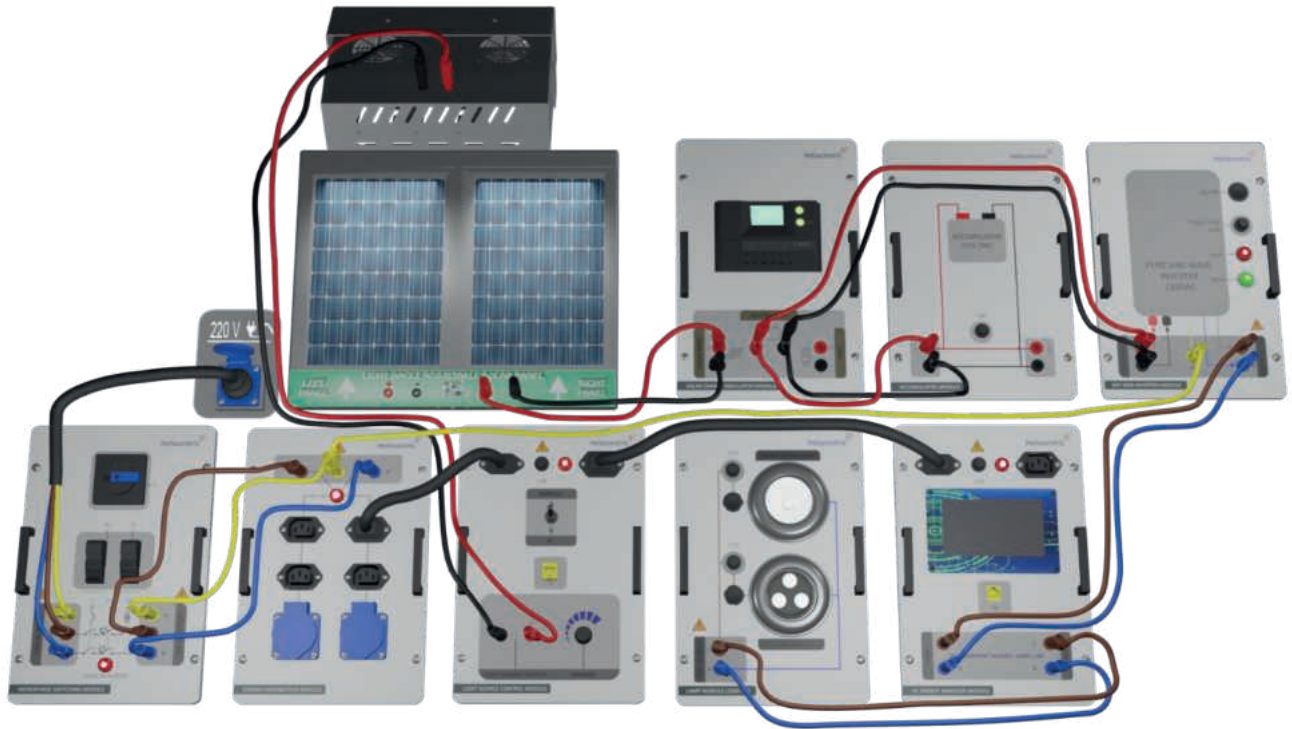

Figure-69. Installation Image of Examination of Measurement of Off-Grid Inverter Output Signal with Energy Analyser
1. Set up the connection as specified in Figure-69. Maintain a constant level of light in the laboratory by creating an average lighting scenario. Note that any changes to the positions of lamps or curtains will affect the experimental results.